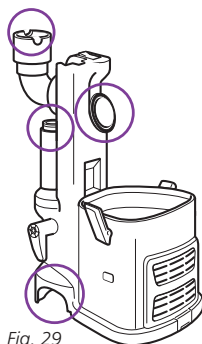

Fig. 29
- Remove the dust cup and extension wand and separate the portable *Lift-Away™* canister from the motorized floor brush. Look in all 4 openings for any blockages. (**Fig. 29**)